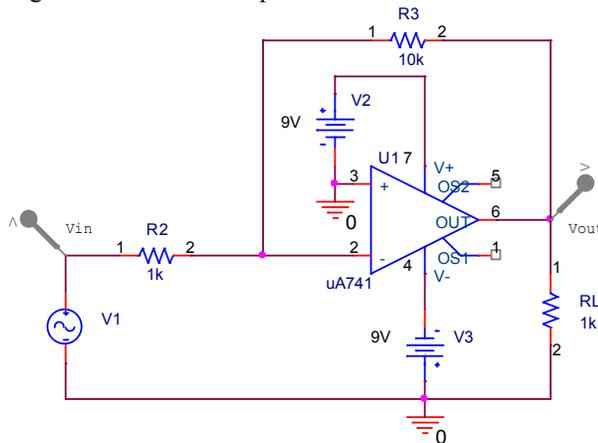

Figure A-7.
- Wire the circuit shown in Figure A-7 below in PSpice.
- Build the inverting op-amp circuit in Figure A-7 on your protoboard.